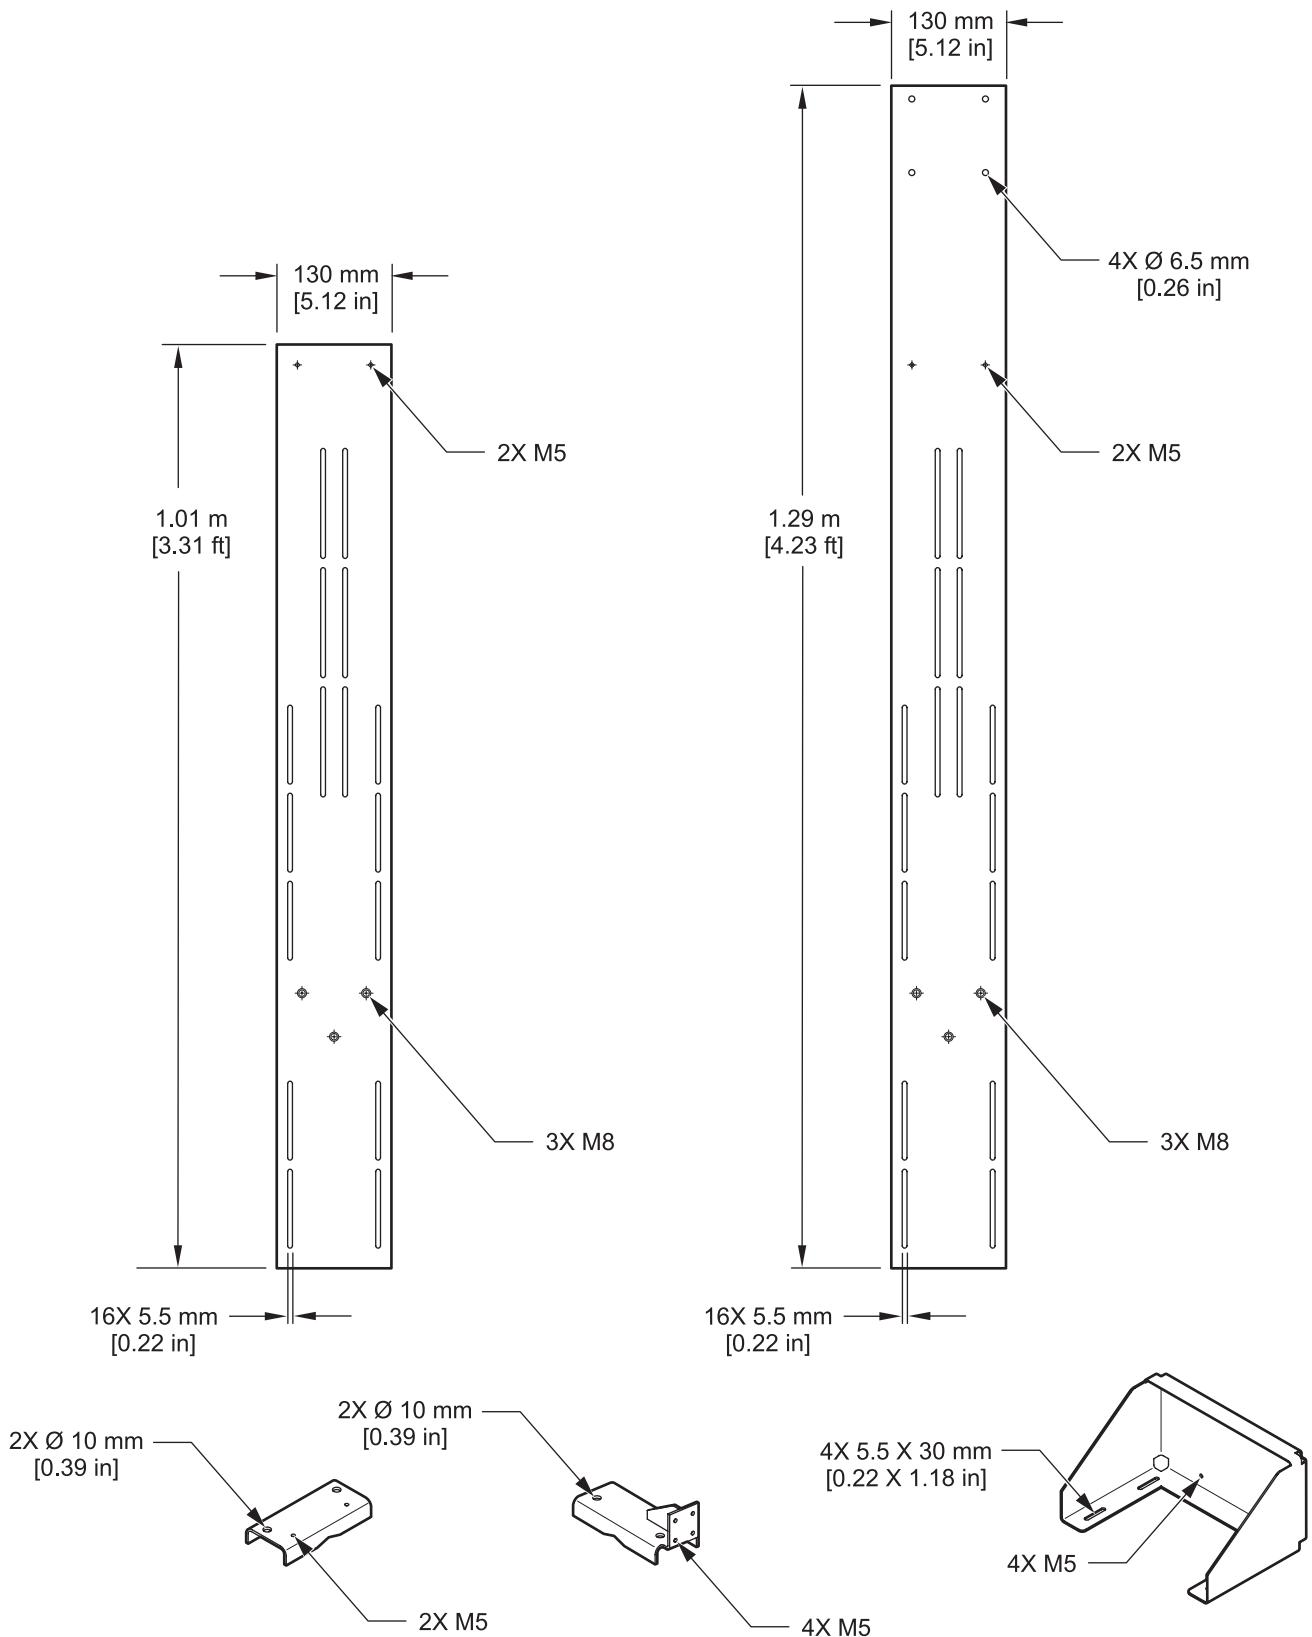
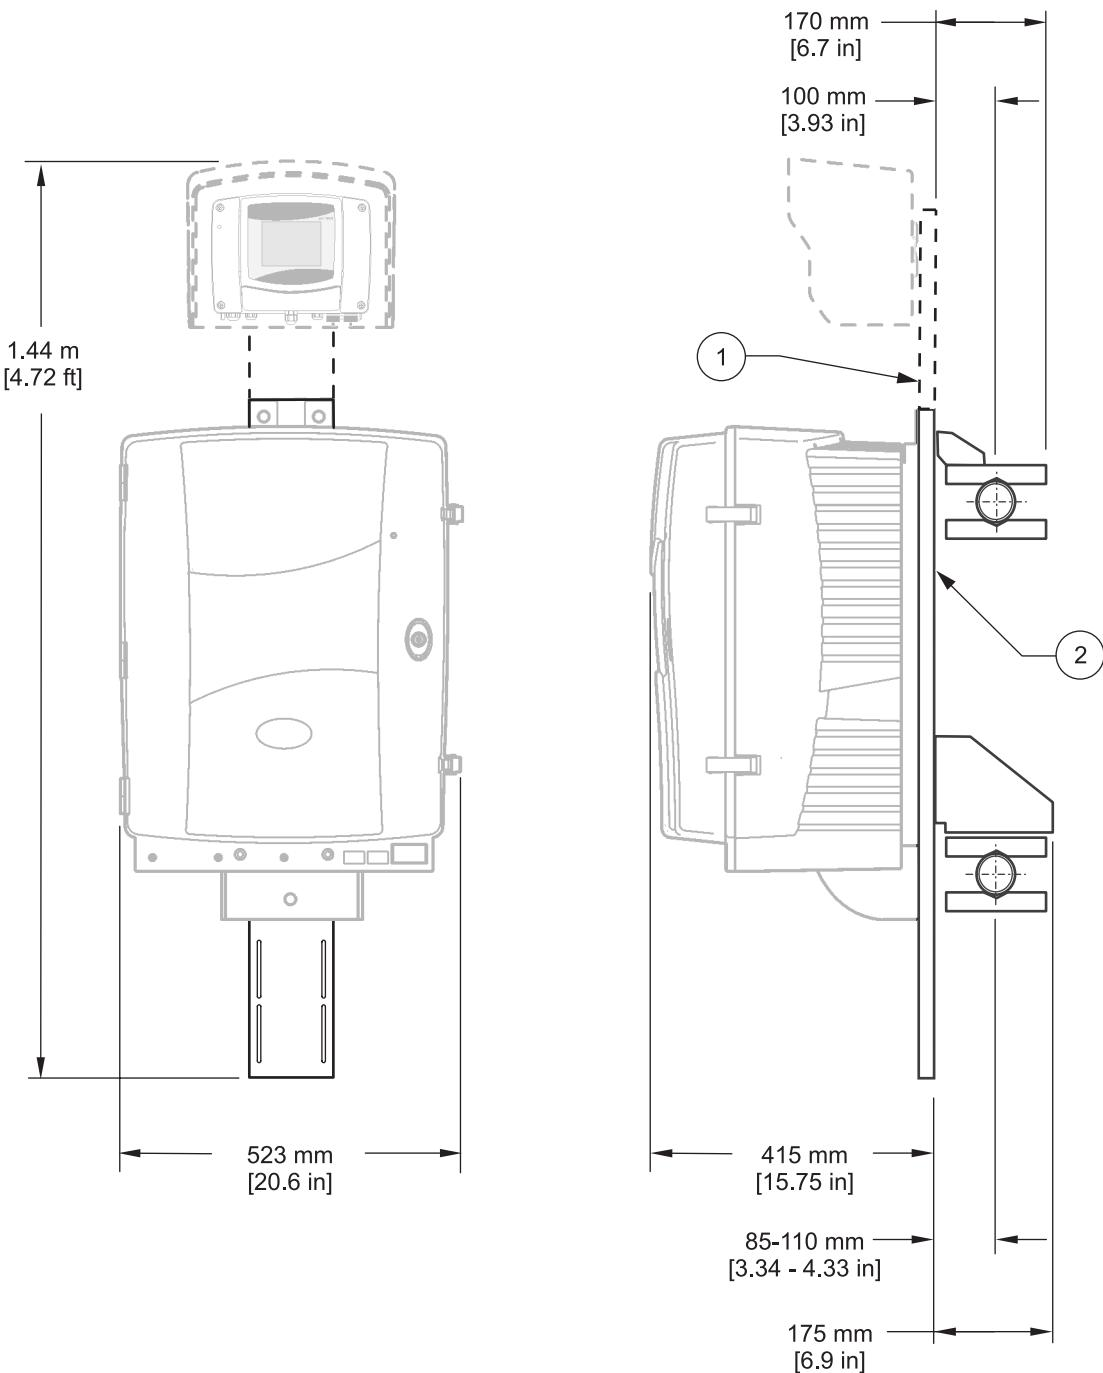

Figure 2 LZY316 and LZY285 Sizes and Dimensions
Figure 3 LZY285 and LZY316 Mounting dimensions
*Note: For sizes and dimensions, see Figure 2 on page 3 and Figure 3 on page 4.*